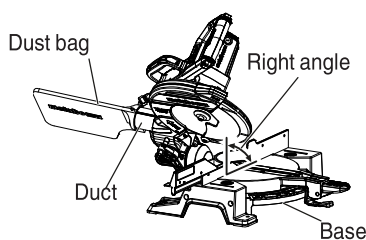

Fig. 25
- (1) When the dust bag has become full of sawdust, dust will be blown out of the dust bag when the saw blade rotates.
- (2) During bevel and compound cutting, attach the dust bag at a right angle to the base surface as shown in Fig. 25.